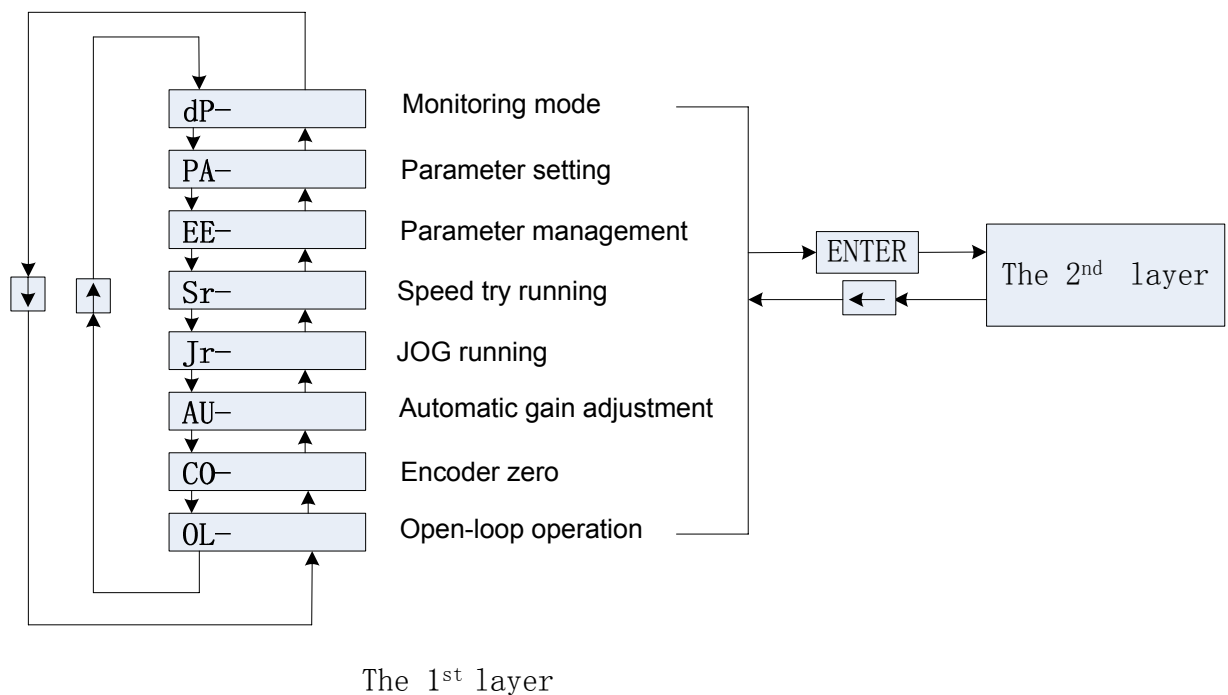

Figure 6-1 Block diagram of Mode Selection
3. The operating menus are arranged in layers. The first layer is the main menu that includes eight operating modes. The second layer consists of the functional menus in all operating modes. Figure 6-1 shows the block diagram of operating the main menu.